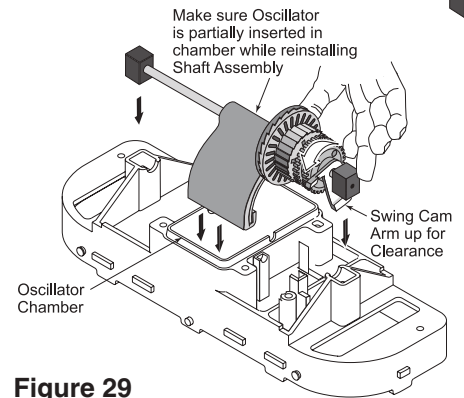

Figure 29
3. Install the long gear shaft and end blocks in the cleaning head with the large arm of the cam down (**see Figure 29**).